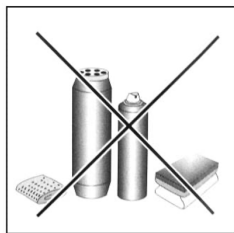

Fig. 2
- Do not use abrasive sponges or cleaning products, these holds true for chemically aggressive cleaners, like oven sprays and stain removers (Fig.2).